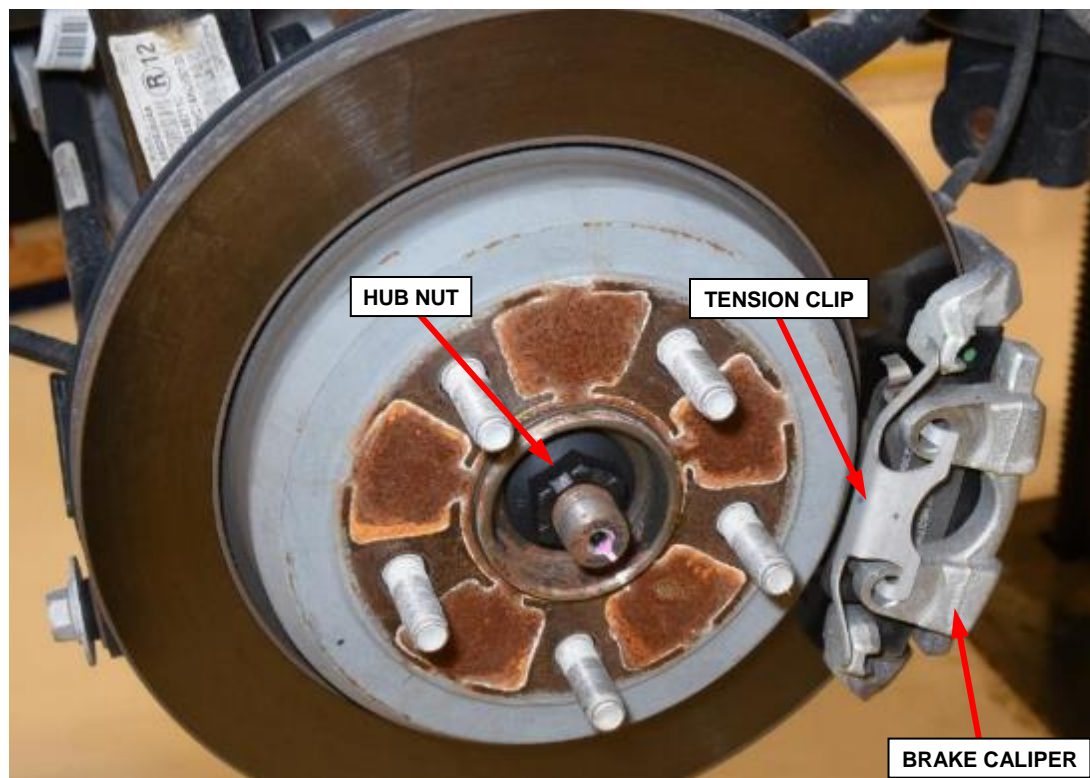

Figure 11 – Right Rear Hub and Brake Caliper
17. While a helper applies the brakes to keep the hub from rotating, remove and **DISCARD** the right side rear hub/bearing nut. **The used hub nut is not reusable** (Figure 11).
18. Remove the right side rear brake caliper tension clip by pressing forward on the clip to release the clip while pulling the clip away from the brake caliper (Figure 11).